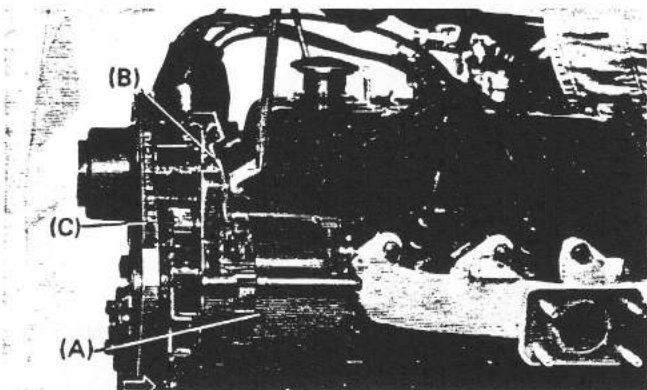

Fig. 16
- Remove the bolt as shown in Fig. 16, and remove the alternator strap (B) from the alternator (A).
- Remove the alternator mounting nut and bolt, and remove the alternator and V-belt (C) from the alternator bracket.